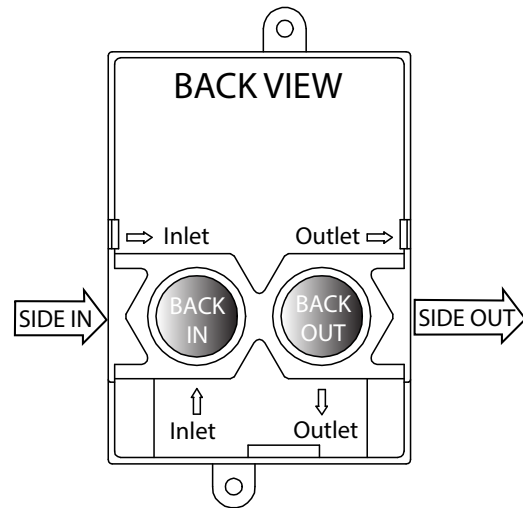
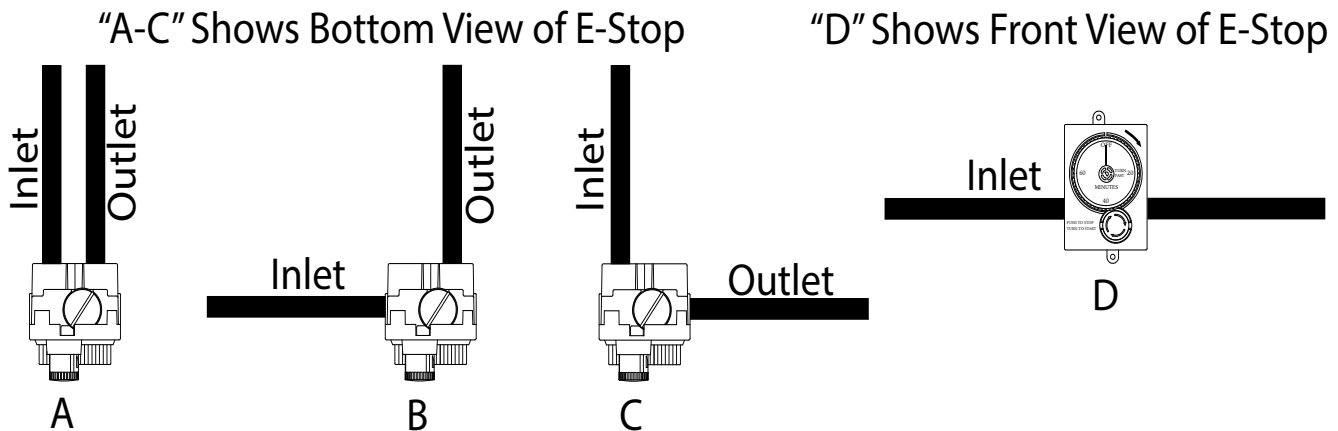
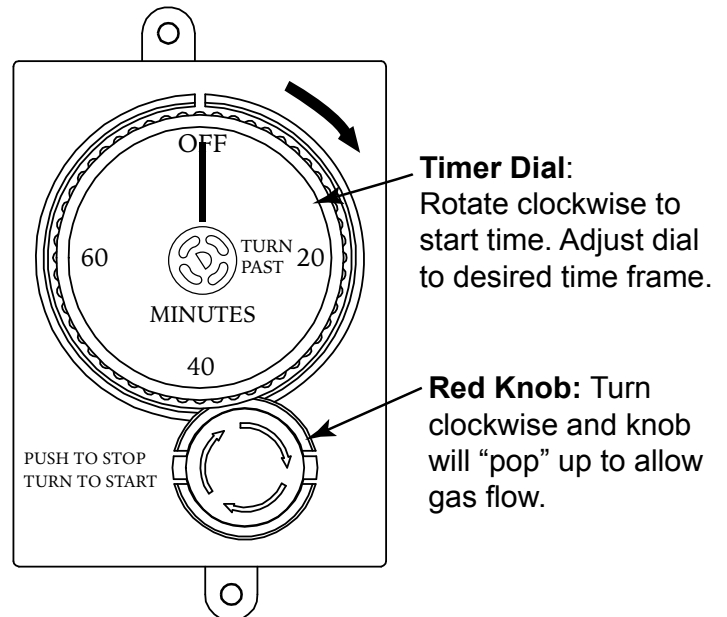
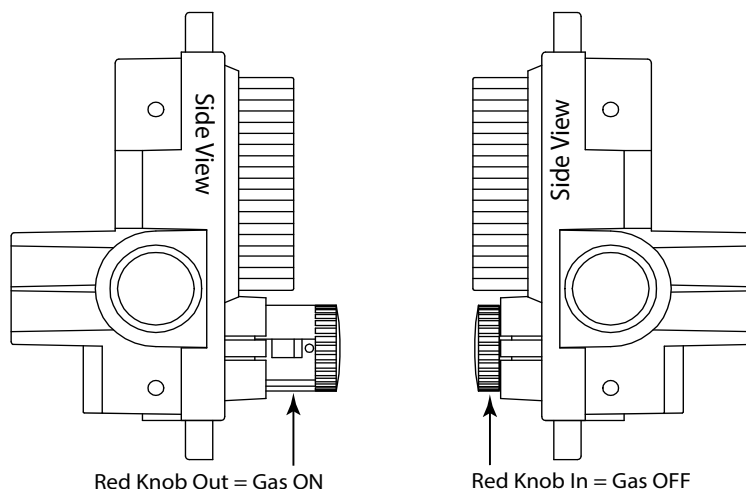

Fig. 2 Inlet and outlet connections.
Fig. 3 Plumbing options
Fig. 4 ESTOP1-0H operation.
Fig. 5 ESTOP1-0H Gas Timer red knob positions
The ESTOP1-0H is recommended to be installed in an up-right position as shown in Fig 3, view "D" or Fig. 4. It has two (2) inlet and two (2) outlet gas connections. The diagrams below provide possible ways to plumb the timer (See Fig. 3). Two (2) ½" NPT plugs are provided with the timer. Plug the inlet and outlet connections not being used for the application. Connect gas supply to the inlet with the arrow  pointing into the valve. Connect outlet side to the gas appliance (See Figs. 2 & 3 for details).
TO TURN OFF: Let timer expire or simply press red knob inward until it stops. The red knob will lock down with a "click" and stop gas flow. See Fig. 4 and Fig. 5 on following page.